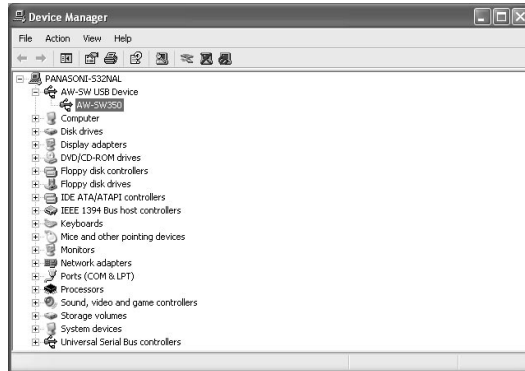

Fig.5 Device manager screen
- 6** In order to confirm that the device driver has been installed successfully, it is recommended that you open the Device manager as shown in Fig.5, and check that “AW-SW USB Device:AW-SW350” is displayed.